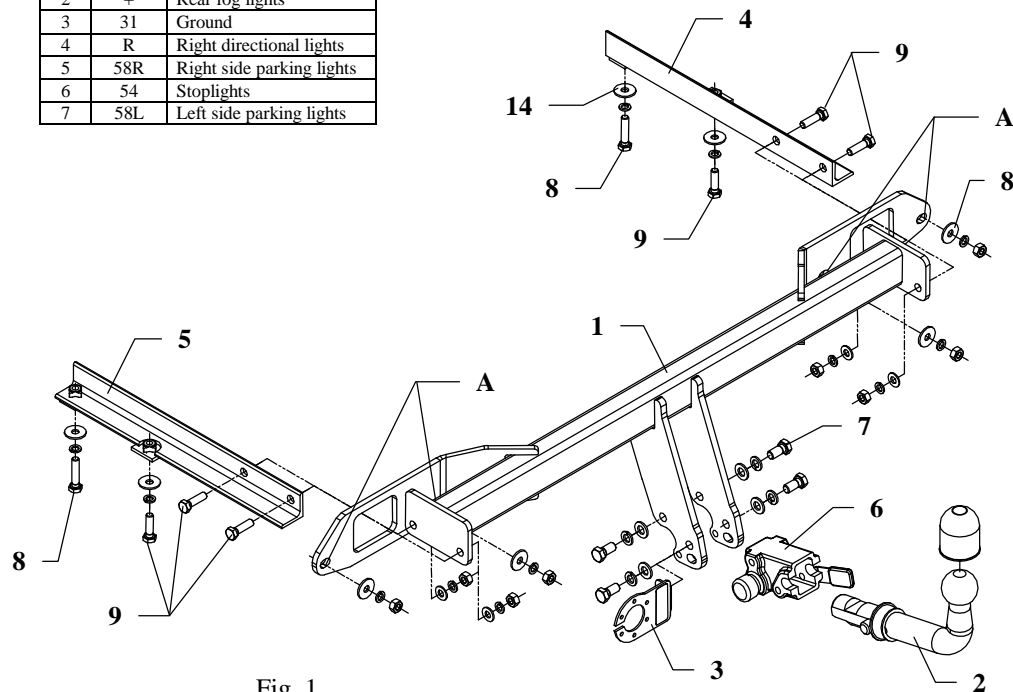

Fig. 1
2. Apply the main bar of the towing hitch (pos. 1) to rear panel of the vehicle and fix in points A using nuts M10 (see fig. 1).
3. Slip the angle bars (pos. 4 and 5) to chassis members in that way so holes of the angle bars be covered with prepared holes in chassis members. Fix loosely using bolts M10x45mm and M10x35mm (pos. 8 and 9) – see fig. 1.
4. Fix angle bars to the main bar of the towing hitch (pos. 1) using bolts M10x35mm (pos. 9) – see fig. 1.